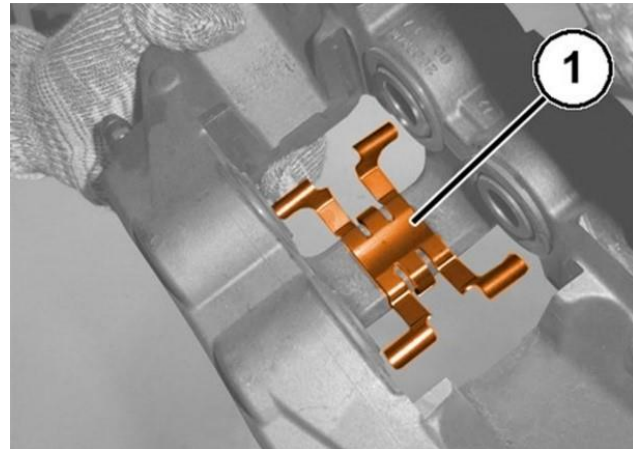

Figure 13 – Retaining Spring
36. Install some “MOLYKOTE Cu-7439 Plus” grease to the brake pad sliding shoulders and a **NEW** brake caliper retaining spring in its housing (Figure 13).